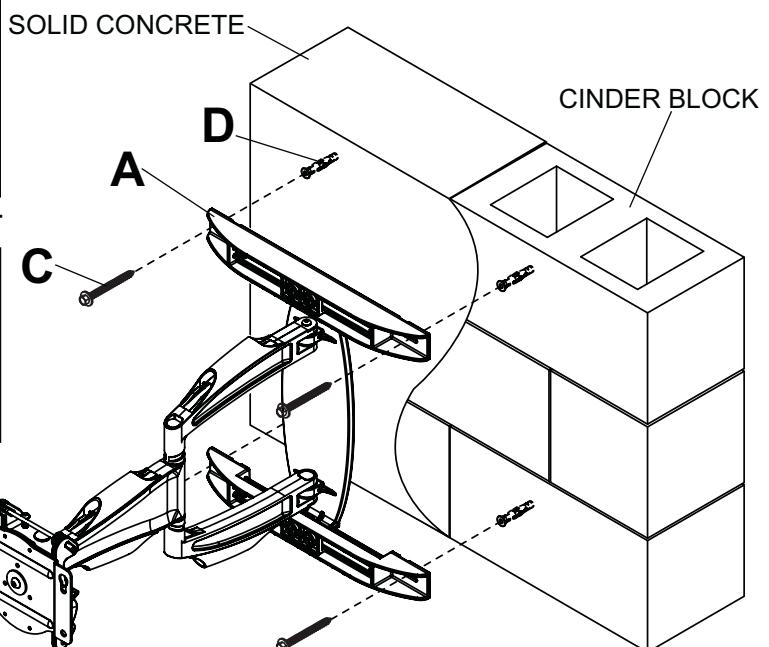

fig. 2.3
- 2** Use wall plate template to mark mounting holes. Top mounting holes should be located "X" above desired screen center as shown in figure 2.1 and chart 1 on page 6. Drill four 13/32" (10 mm) dia. holes 3" (76 mm) deep as shown in fig. 2.3. Insert anchors (D) into holes flush with wall as shown (right). Place wall arm over anchors and secure with 5/16 x 3" screws (C). Level, then tighten all fasteners.